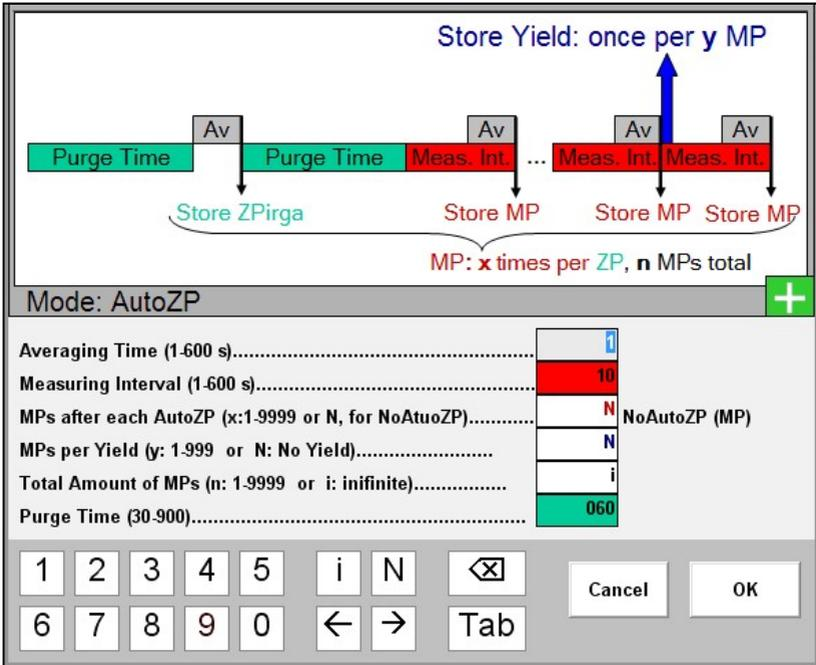
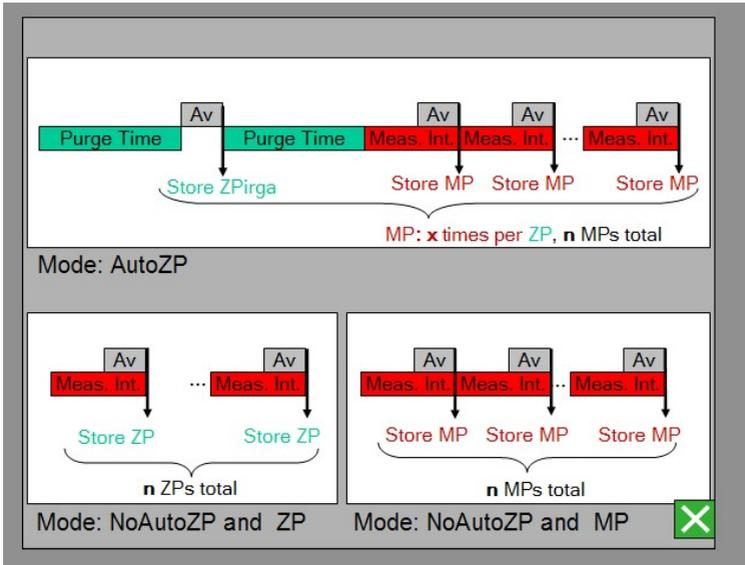

Fig. 32: Dialog with settings for the automatic sampling sequence.
Fig. 33: Illustration of sampling sequences (fluorescence module not enabled).
The other two buttons control the sampling sequence settings. A Click on one of them opens the dialog displayed in Fig. 32.
There are several optional sequences. In the simplest sequence only measuring points (MP) are taken, but this can be extended by additionally taking zero points (ZP) and also yield measurements if a fluorescence module is connected. It is also possible to use the automatic sampling sequence to only store zero points ZPs. The different sampling sequences are illustrated in Fig. 32 and Fig. 33. Fig. 32 shows the standard view with fluorescence module, whereas Fig. 33 shows the extended view without fluorescence module.